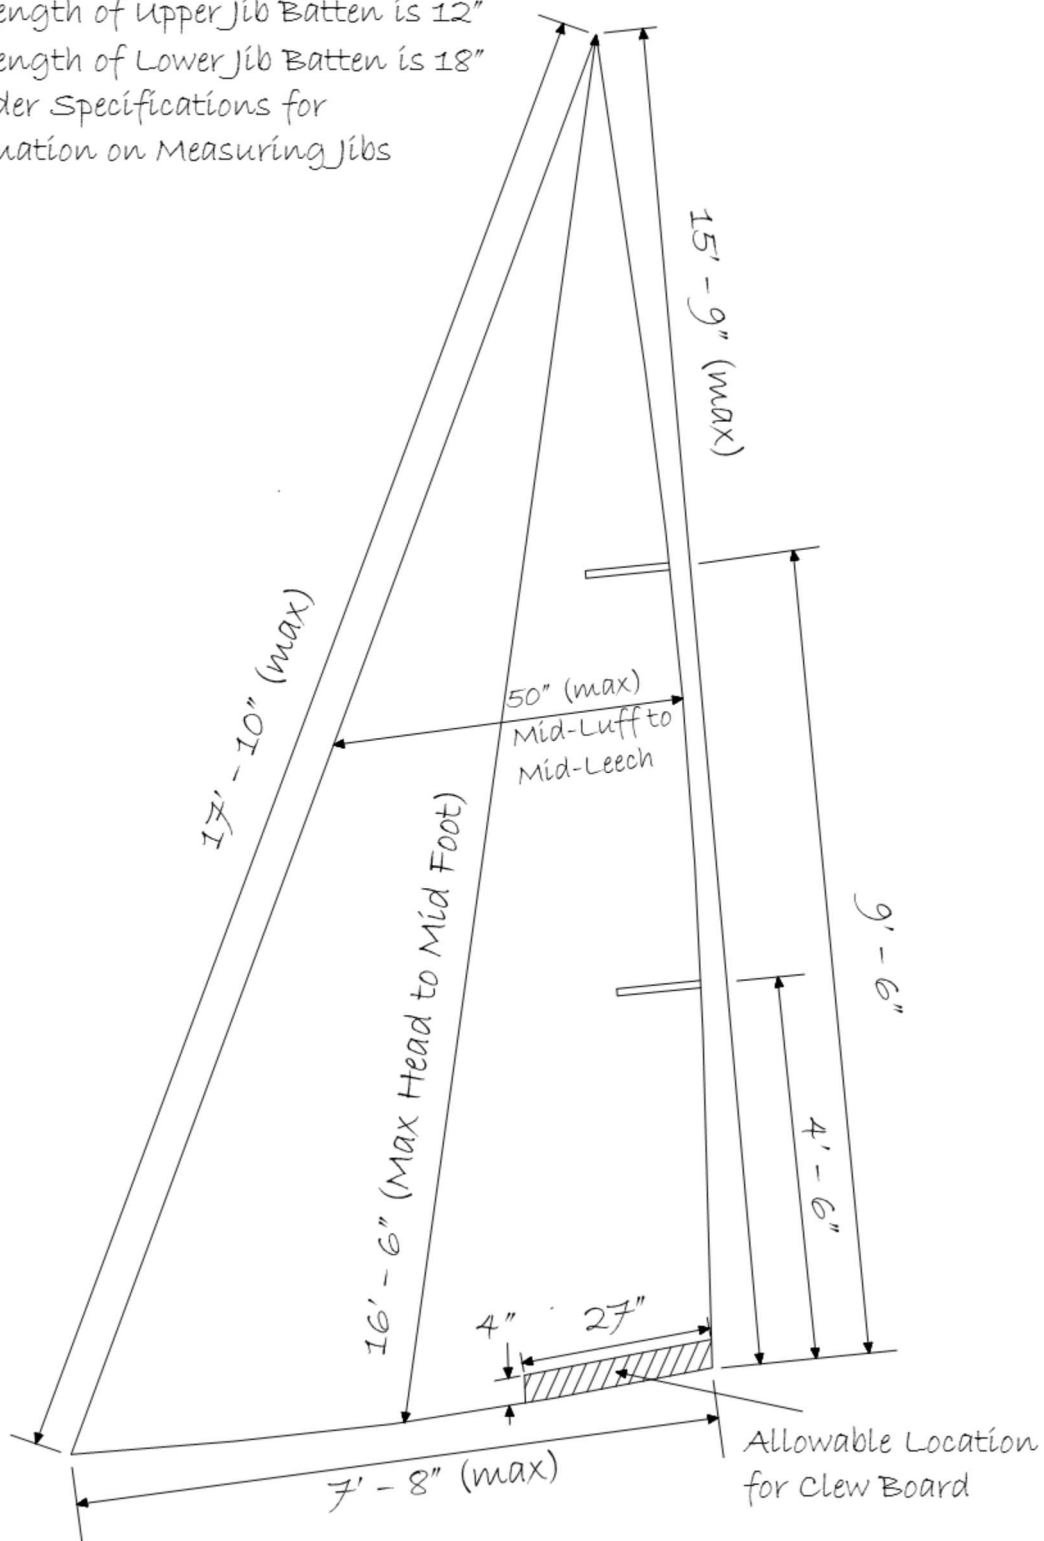

Figure 5 Jib Measurements
- iii. There are no minimum measurements. Maximum measurements are as shown in Figure 5.
- v. Up to two battens as shown in Figure 5 are permitted.
- vi. A clewboard of any material is permitted in the jib, which shall be located as shown in Figure 5.
- vii. A minimum number of five (5) snaps or hanks equally spaced along 80 percent of the